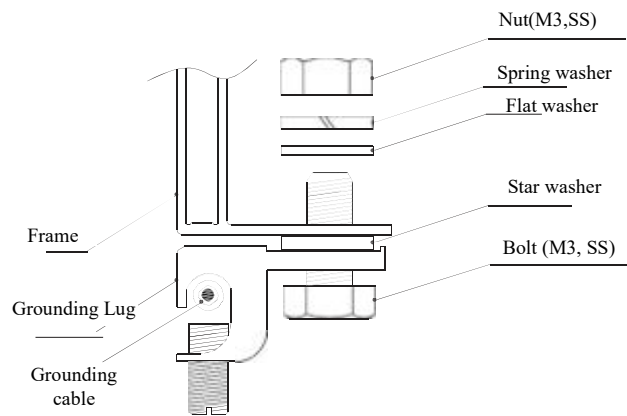

Figure 11
- First, peel the grounding cable to a proper length without damage to the metal core. Then insert the peeled cable into the lug, tighten the screw. As shown in Figure 11, connect the lug to the aluminum frame with stainless steel bolts and connection components. The recommended tightening torque for M3 bolts is 2.3N•m.